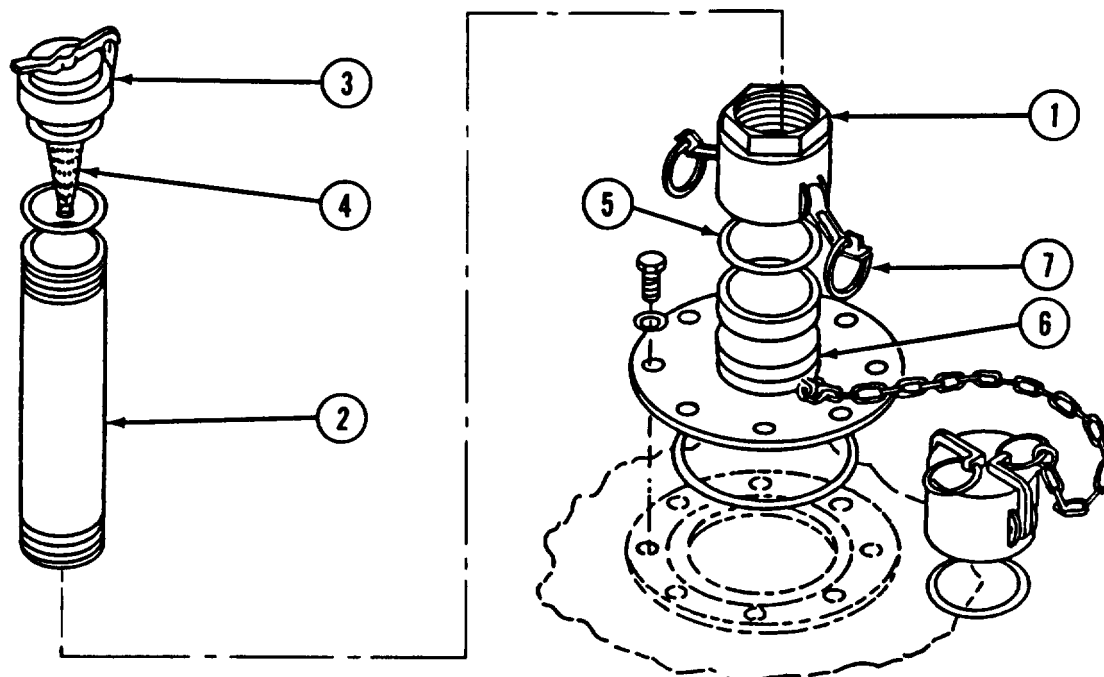
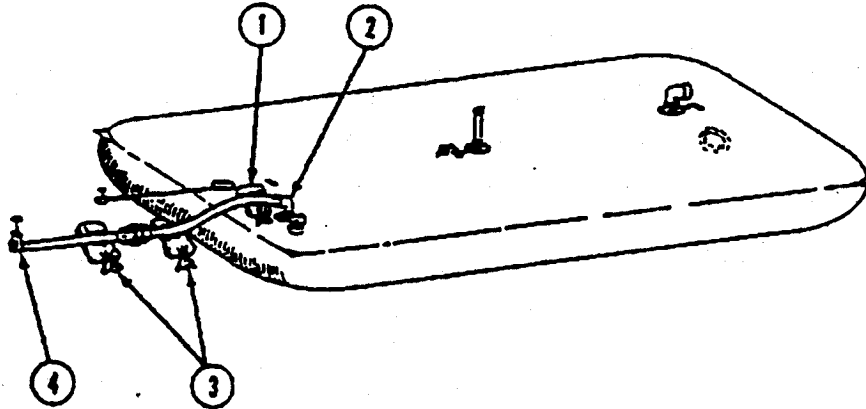

Figure 2-8. Vent and Pipe Assembly
Figure 2-12. Elevated Connections for Easy Leak Detection
- c. Inspect female coupling half (1) and vent pipe (2) for cleanliness. (See figure 2-8.)
2-6.1 Initial Adjustments. (See figure 2-12)
- a. Inspect tank to verify setup as shown in figure 2-12.
- b. Check drain gate or ball valve (4) to verify it is in closed position.
- c. Check vent pipe assembly relief cap (item 2, figure 2-8) to verify freedom of operation.